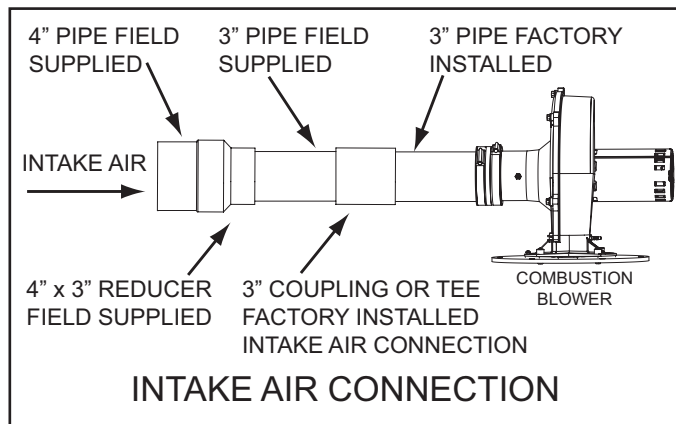

Figure 16
15. If installing 4 inch intake air pipe transition to 3 inch pipe at the intake air connection on the water heater as shown in Figure 16. The field installed 3" pipe between the intake air connection and the 4" x 3" reducer coupling should be 18 inches (45 cm) or less in length.